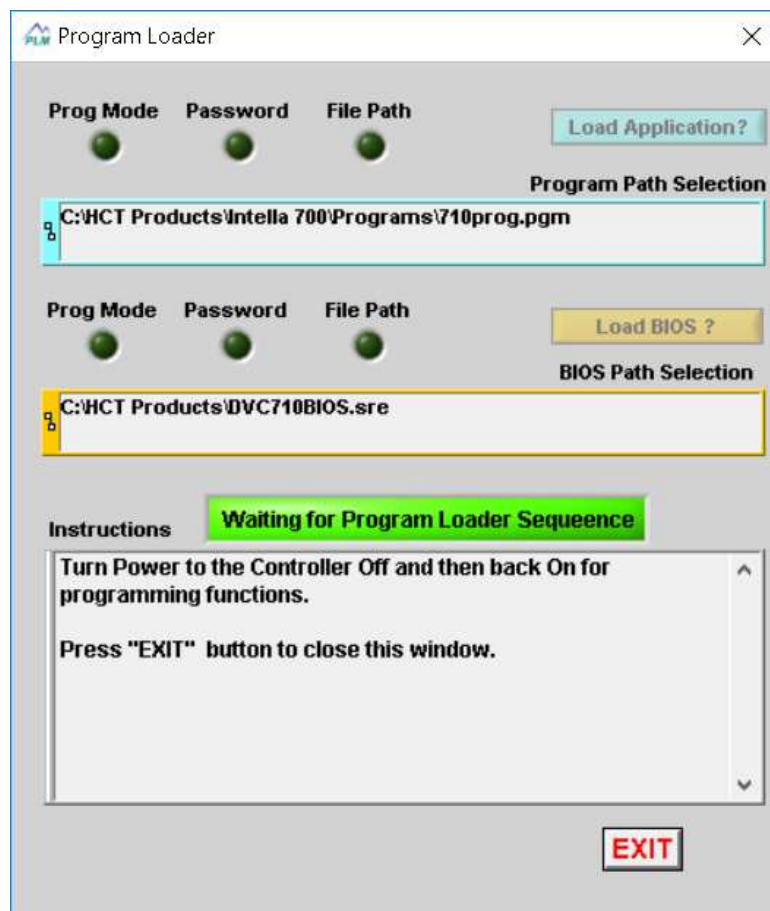

Figure 16 – Program Loader
6) To flash a new program or BIOS, select the Program Loader button in the DVC-710 monitor window. You will then see the 'Program Loader' window (see Figure 16).